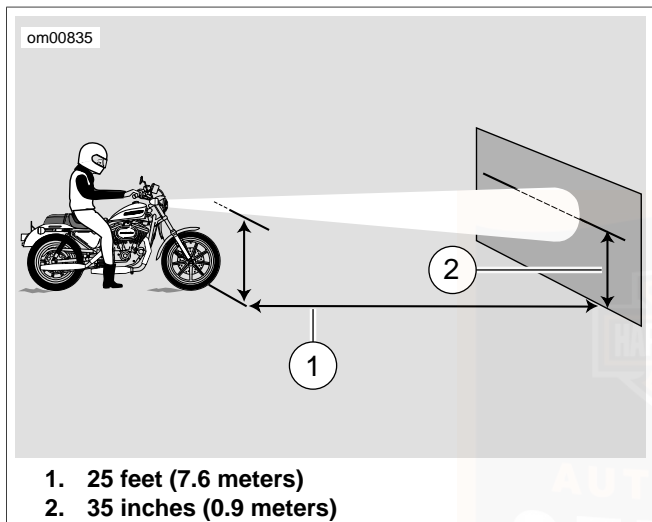

Figure 51. Headlamp Alignment: Sportster Models
3. See Figure 51. Position motorcycle 25 feet (7.62 meters) away a screen or wall. Measure distance from directly below front axle to base of screen/wall.